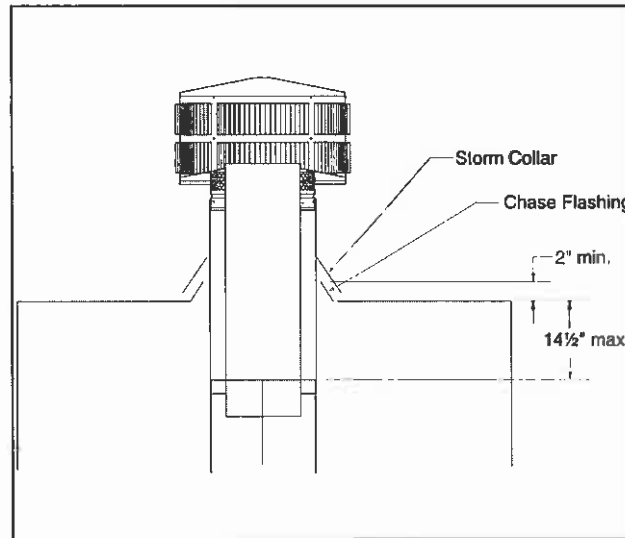

Figure 23 - Installing a TR342 Round Telescoping Termination Cap
- b. For installations utilizing a TR342 telescoping round termination cap, the uppermost chimney section must be below the top of the chase top, but not more than 14½" below the top of the chase top flashing collar. See Figure 23.